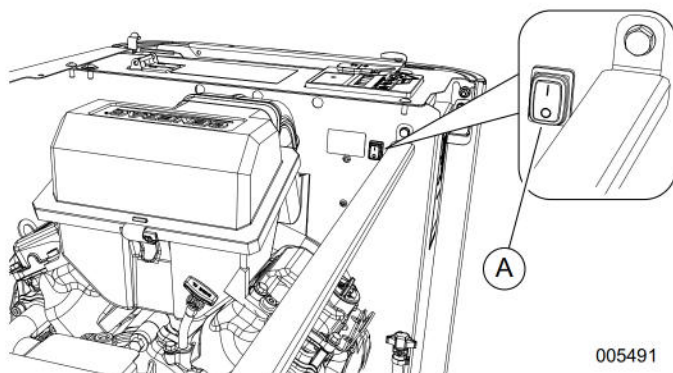

Figure 3-7. Internal Auxiliary Shutdown Switch (14–24 kW)
See Figure 3-7. 14–24 kW generators also have an auxiliary shutdown switch (A) located inside generator.